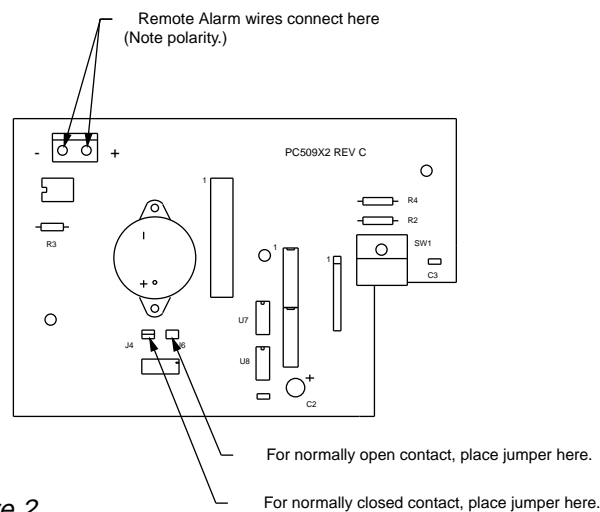

Figure 2
5. Set the jumpers J4 and J6 according to the type of operating mode necessary. For a normally open mode of operation, place the jumper on J6. For a normally closed mode of operation, place the jumper on J4. (See Figure 2).